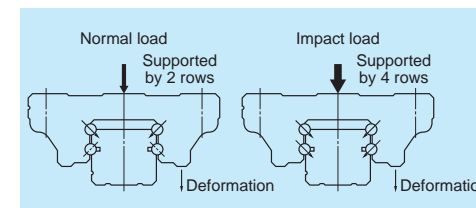

Fig. 5 Shock-resistance
• When a super-high load (impact) is applied, our Gothic arch groove spreads the load to surfaces which usually do not come into contact in ball type. This increases shock resistance (Fig. 5).